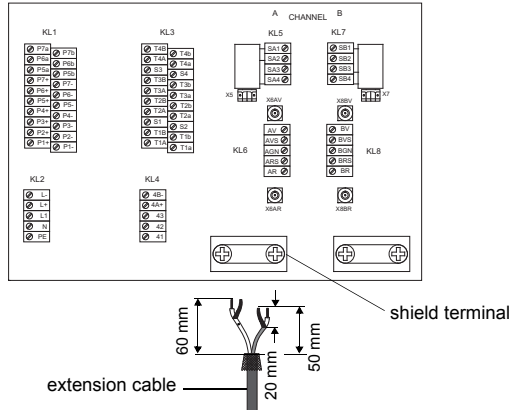

Fig. 6.6: Transducers (ATEX zone 1) - connection via junction box, connection of the extension cable to the transmitter
- Push the extension cable through the shield terminal to terminal strip KL6 for measuring channel A and to terminal strip KL8 for measuring channel B (see Fig. 6.6).
- Pull the extension cable back until the brushed back external shield is below the shield terminal (see Fig. 6.6).
- Connect the leads to the terminals of the transmitter (see Fig. 6.6 and Table 6.5).